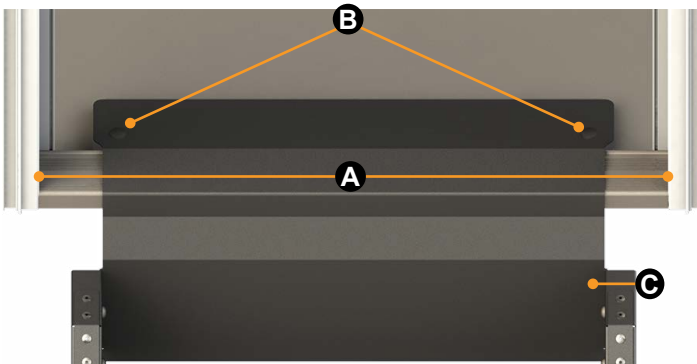

Fig.2
1. With the step extended and in the down position, place the SolidStep assembly inside the doorframe (**Fig.2**).